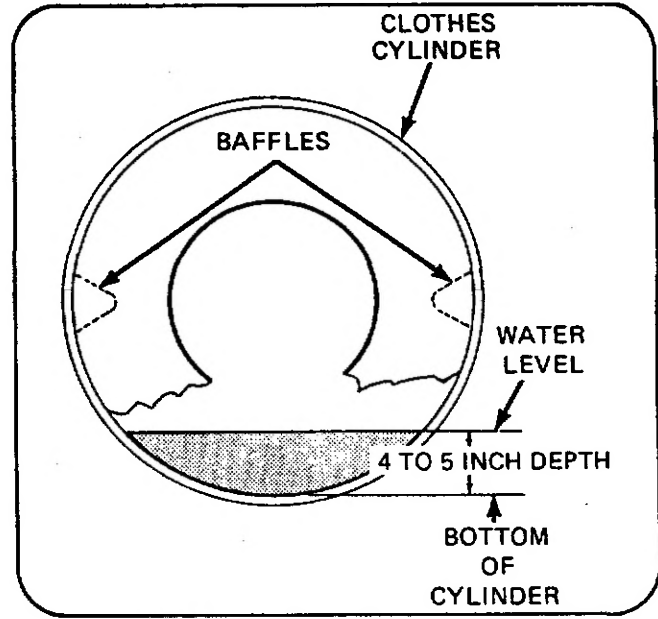

Figure 12
- d. Check water level in cylinder, *Figure 12*, and adjust pressure switch if necessary. (See ADJUSTMENTS section of service manual.) At the end of the fill portion, water depth in the cylinder should be approximately 4-1/2". (Measure water depth with no clothes in cylinder.)